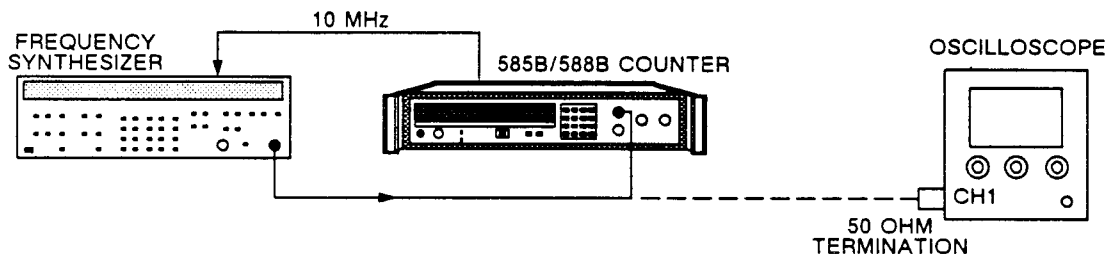

Figure 8-2. Band 0 Range and Sensitivity Test Setup (100 Hz to 10 MHz).
1. Connect equipment as shown in Figure 8-2.